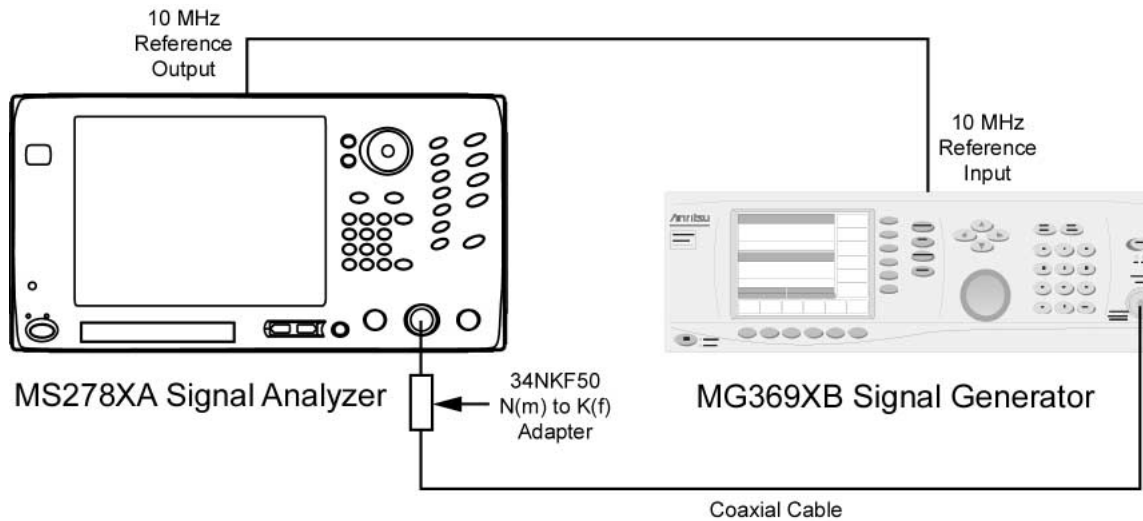

Figure 6-49. Equipment Setup for Resolution Bandwidth Switching Uncertainty Test
- Step 1.** Set up the instruments as shown in Figure 6-49. Turn on both the MS2781A Signal Analyzer and the MG369XB Signal Generator and allow them to warm up for one hour.